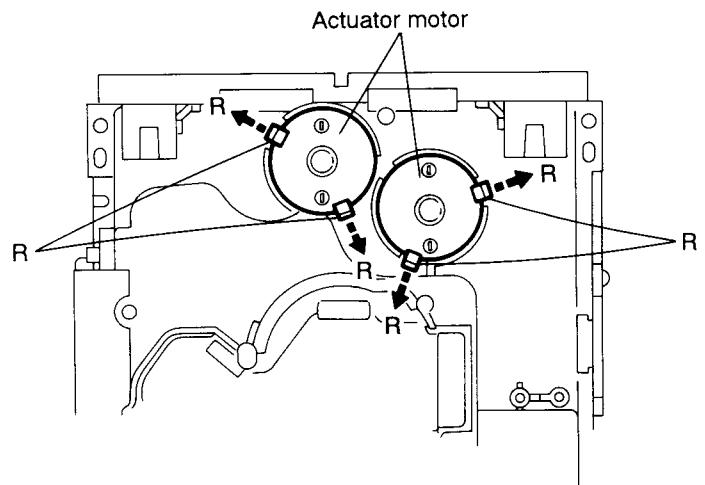

Fig. 2-27
5. After turning over the chassis assembly, remove the actuator motor while spreading the four pawls (R) fixing the right and left actuator motors in the arrow direction (See Fig. 2-27).